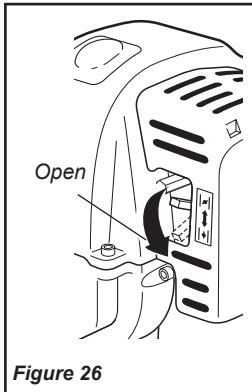

Figure 26
6. When the engine starts, slowly move the choke lever to the "OPEN" position. See Figure 26. (If the engine stops after the initial start, close the choke and restart.)